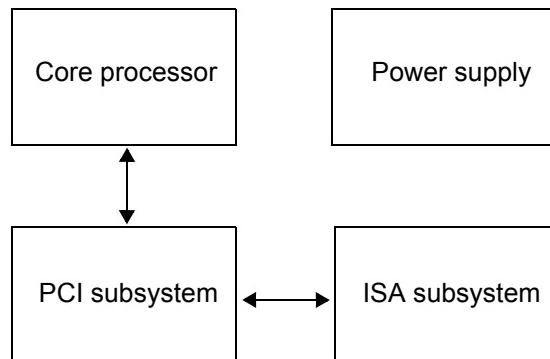

Figure 3-1: CPU PCBA setup
**It has four major subsystems (Figure 3-1):**